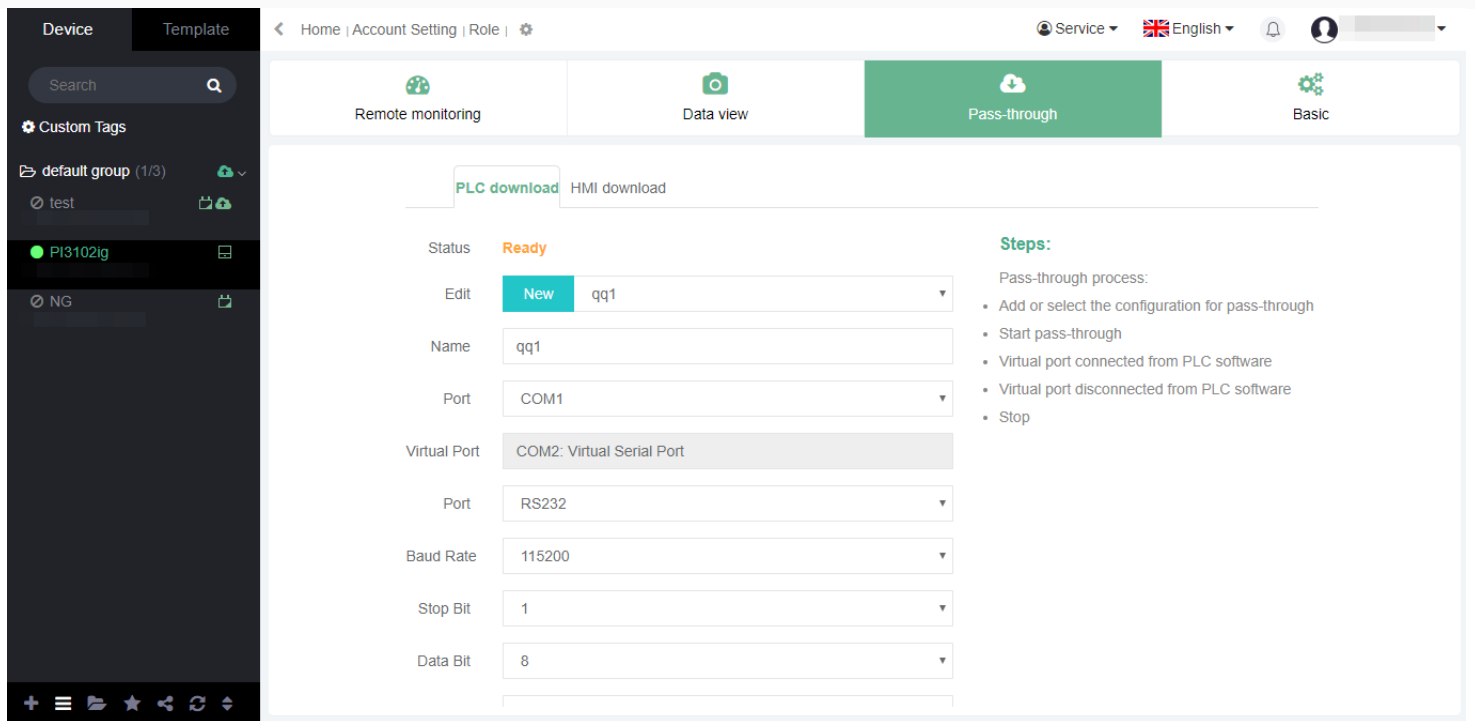

Figure 6
This function allows application on the PC to download directly to PLC or HMI, as shown in Figure 6:
- After configuring the COM port, go to the remote downloaded, PLC download, to config the name, communication port, virtual serial port and other configurations as shown in Figure 6.